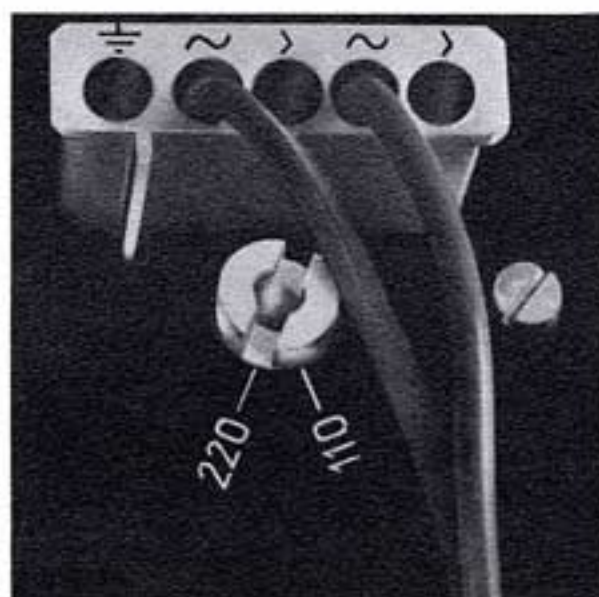

Fig. 2
B. No. 213 982; AMP-No. 160 565/1 (Fig. 2) for 5-pole power supply plug
If the unit is to be connected to equipment without a power transformer (such as a small radio or some amplifiers), the Dual should be grounded to prevent possible shock. A contact is available for this purpose on the power connector. (Figs. 2 and 3).